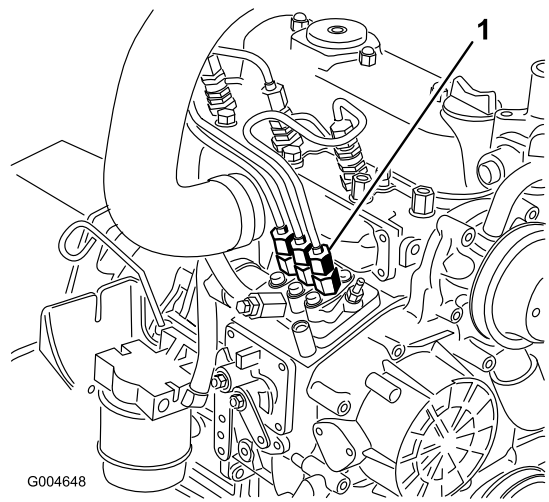

Figure 38
1. Place a rag under the pipe connection coming from the injection pump to the No. 1 injector nozzle as illustrated in Figure 38.